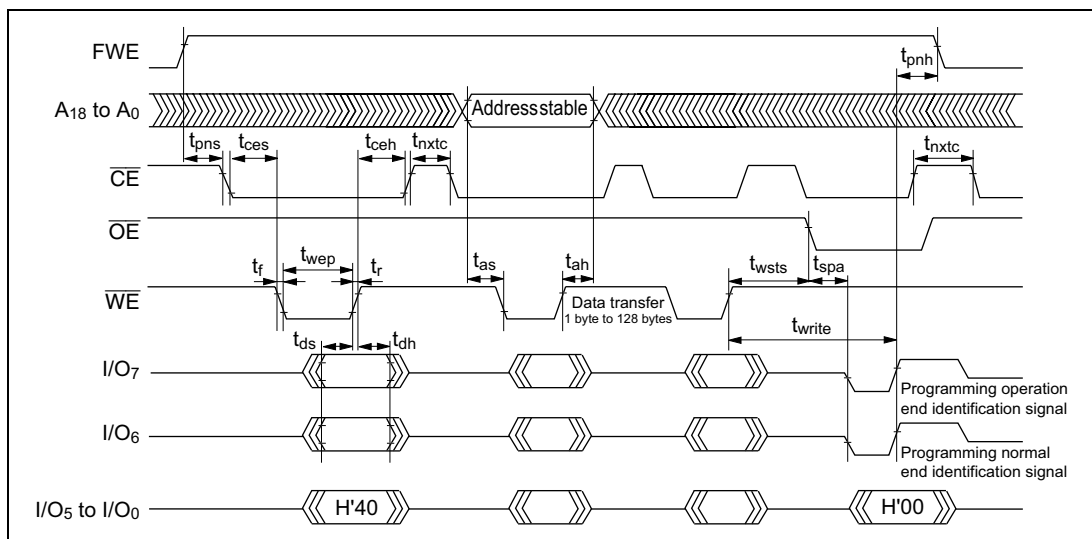

Figure 17-26 Auto-Program Mode Timing Waveforms
- Memory address transfer is executed in the second cycle (figure 17-26). Do not perform transfer later than the second cycle.